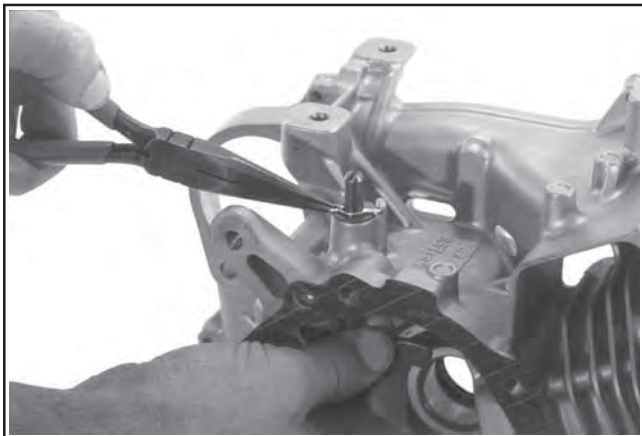

Figure 9-87. Removing Governor Cross Shaft Hitch Pin.
1. Remove the hitch pin and plain washer from the governor cross shaft. See Figure 9-87.